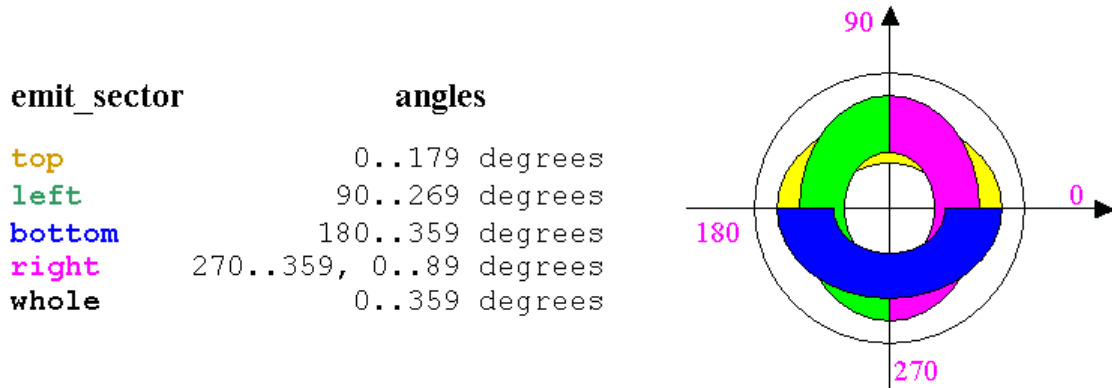

Figure 2.3: An explanation of the "emit_sector" parameter
- **emit_sector** defines an external to LED sector of light emission, which may include LED encapsulation. This parameter allows a user to select an LED light emission sector. Depending on design and application, it can be chosen out of the following options: **whole**, **bottom**, **right**, **top** or **left**. Figure 2.3